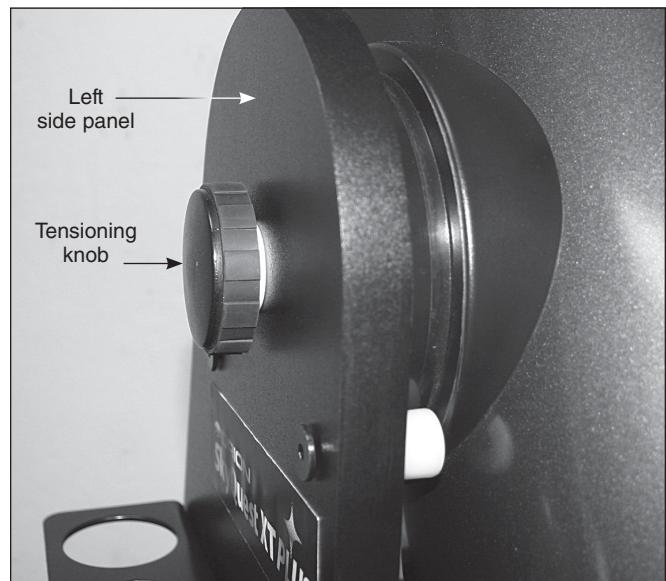

Figure 10. The tensioning knob on the left side panel lets you set and adjust the amount of friction for the altitude motion of the telescope.
3. On the other altitude axis coupling knob place a metal washer on the bolt, then thread on the white plastic washer all the way (**Figure 9**), until it is captive on the smooth portion of the shaft nearest the hand knob. Now insert the bolt though the bushing on the **LEFT** side panel and use the knob to thread it into the left side bearing on the optical tube assembly. This coupling knob is referred to as the "tensioning knob" (**Figure 10**).
The SkyQuest XT PLUS tube is held on the Dobsonian base with two altitude axis coupling knobs (**Figure 10**). The one on the right side acts simply as a retaining knob, while the one on the left side is the "tensioning" knob. Turning this knob clockwise pulls the telescope's left side bearing into the left side panel, increasing the friction between the side bearing's fiber ring and the melamine surface of the side panel. The tighter the knob is turned, the greater the friction and the stiffer the tube will become to move up and down. Ideally you'll want to set the tension such that the tube moves relatively freely, so that you can "track" objects smoothly by moving it in small increments while viewing through the eyepiece.